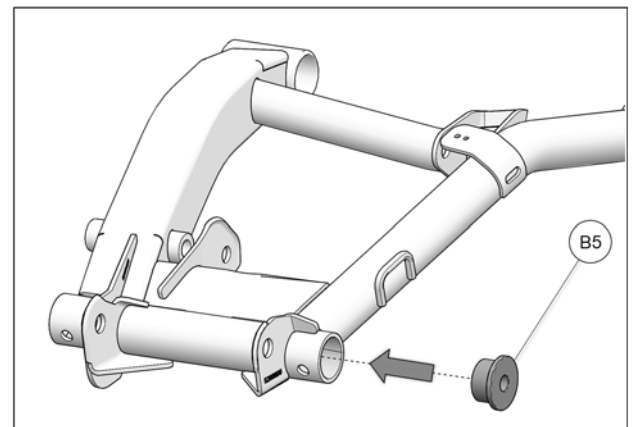

Fig. 4
5. Insert T-Bushing (B5) in the lower suspension arm's large opening that faces front of vehicle. See Fig. 4